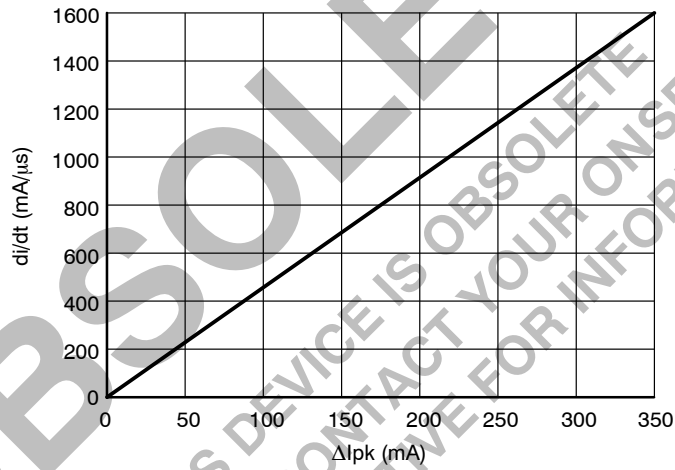

Figure 16. Power Switch Circuit di/dt vs. Δpk
9. Actual peak switch current is increased due to the propagation delay time and the di/dt (see Figure 16).
The current limit propagation delay time is typically 220 ns. This time is measured from when an overcurrent appears at the Power Switch Circuit drain, to the beginning of turn-off. Care must be taken during transformer saturation so that the maximum device current limit rating is not exceeded. To determine the peak Power Switch Circuit current at turn off, the effect of the propagation delay must be taken into account. To do this, use the appropriate Current Limit Threshold value from the electrical tables, and then add the ΔI_{pk} based on the di/dt from Figure 16. The di/dt of the circuit can be calculated by the following formula: